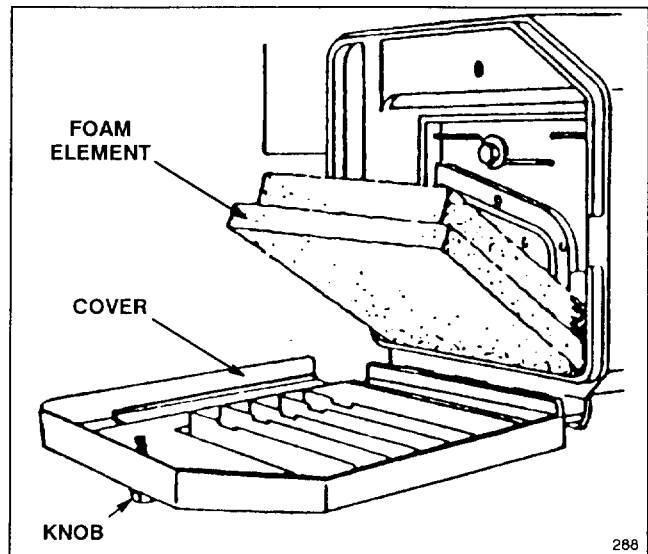

Figure 12
2. Rotate knob securing air cleaner cover to engine until cover can be removed. Clean cover thoroughly (Fig. 12).
3. If the foam element is dirty, remove it from air cleaner body (Fig. 12). Clean thoroughly.